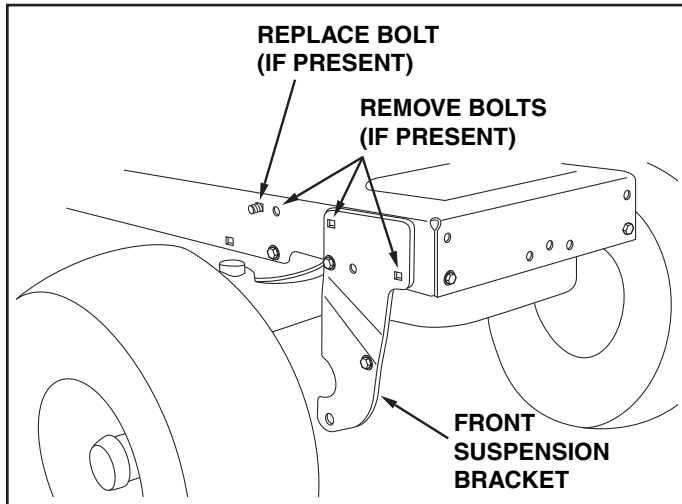

FIGURE 20 RIGHT SIDE VIEW
If your tractor resembles figure 20, start with step 21.
STEP 21: (SEE FIGURE 20)